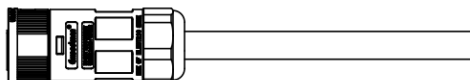

Figure 6-11-6 Tighten the locking nut
- 6) Place the sealing body and wire clamp into the main slot, and tighten the locking nut with torque $2.5 \pm 0.5 \text{ N}\cdot\text{m}$, as shown in Figure 6-11-6.